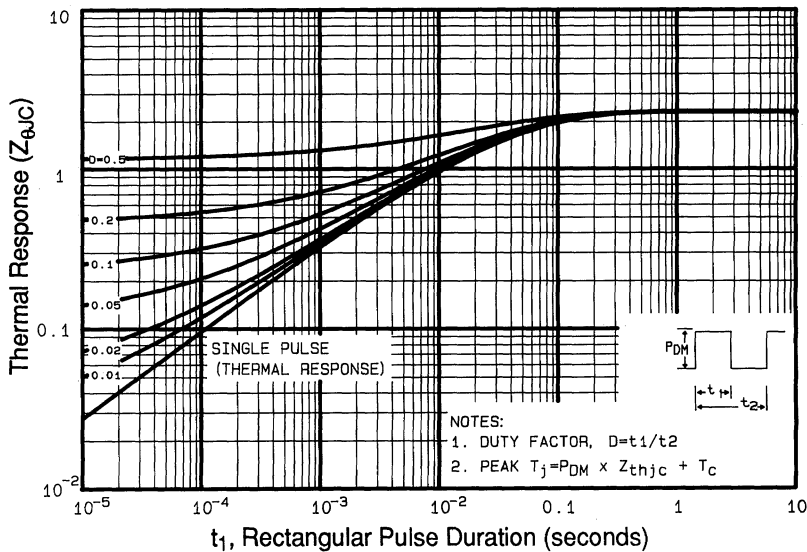

Fig 11. Maximum Effective Transient Thermal Impedance, Junction-to-Case
- ① Repetitive rating; pulse width limited by max. junction temperature. (See fig. 11)
- ② $V_{DD} = 50V$, starting $T_J = 25^\circ\text{C}$, $L = 117\text{mH}$
$R_G = 25\Omega, I_{AS} = 1.7A$. (See Figure 11)